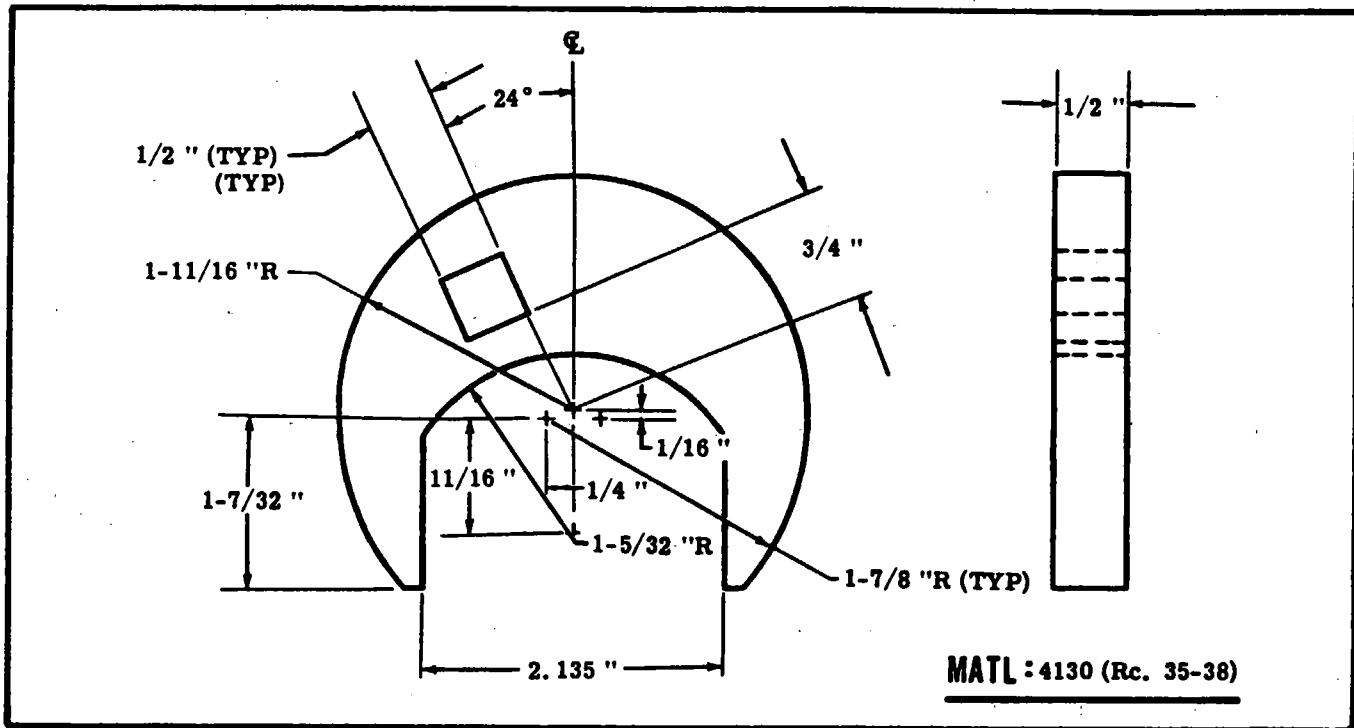

Figure 11A-4. Oil Filter Adapter Wrench Fabrication
A special wrench adapter for adapter nut (11) (Part No. SE-709) is available from the Cessna Service Parts Center, or one may be fabricated as shown in figure 11A-4. Remove any engine accessory that interferes with removal of the adapter.
11A-37. DISASSEMBLY, INSPECTION AND RE-ASSEMBLY. Figure 11A-3 shows the relative position of the internal parts of the filter adapter and may be used as a guide during installation of parts. The bypass and outlet valves are to be installed as complete units, with the valves being staked three places. The detail parts which form the isolation valve may be replaced individually. Also use new seals, lubricate parts with engine oil and replace any part that shows signs of excessive wear. Note that washer (15) is installed with its countersunk side toward outlet valve (13). Tighten plug (21) to a maximum of .40 inch as shown in figure 11A-3. The heli-coil type insert (22) in the adapter may be replaced, although special tools are required. Follow instructions of the tool manufacturer for their use. If the isolation valve should become defective, remove plug (21) and parts (15 through 20). Weld shut vent hole in plug (21). Reinstall washer (15), sleeve (16), O-ring (20) and plug (21) in the adapter. Inspect threads on adapter and in engine for damage. Clean adapter in solvent and dry with compressed air. Ascertain that all passages in the adapter are open and free of foreign material. Also, check that bypass and outlet valves are seated properly.
a. Assemble adapter nut (11) and new O-ring (12) on adapter (10) in sequence illustrated in figure 11A-3.